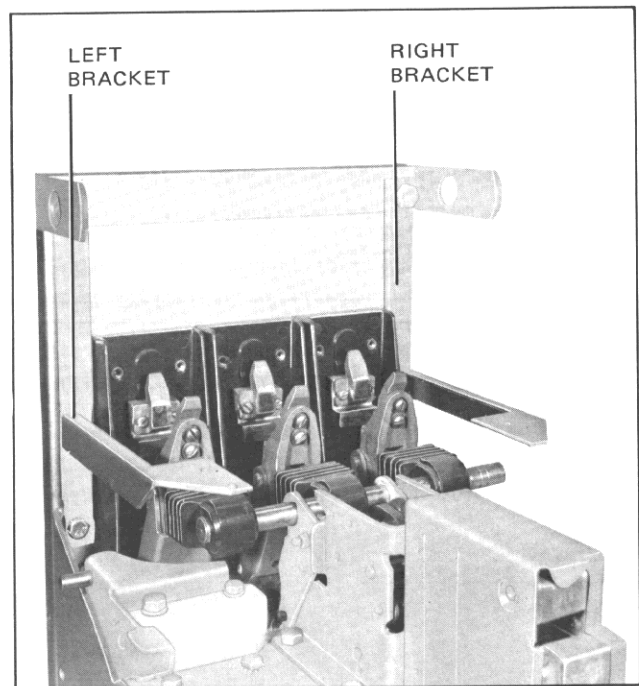

Fig. 9 Mounting of Amptector Bracket
1. The Amptector mounting details consist of two (2) "T" shaped brackets, one right and one left hand which are secured to the rear frame. Remove the existing bolts at top, place bracket over lift bracket and secure with .38-16 x 1.5 bolt, using the existing hole secure the bottom end of bracket with .38-16 x 1.5 bolt, Fig. 9.